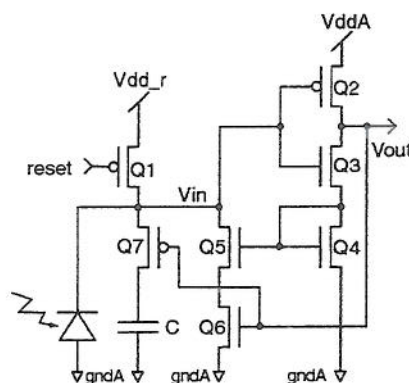

Figure 5.2
- The circuit shown below in Figure 5.2 shows a new type of pixel circuit reported recently in a research publication. Describe how you believe this circuit operates. What are the potential benefits and drawbacks of such a topology compared to that shown above? [5 marks]